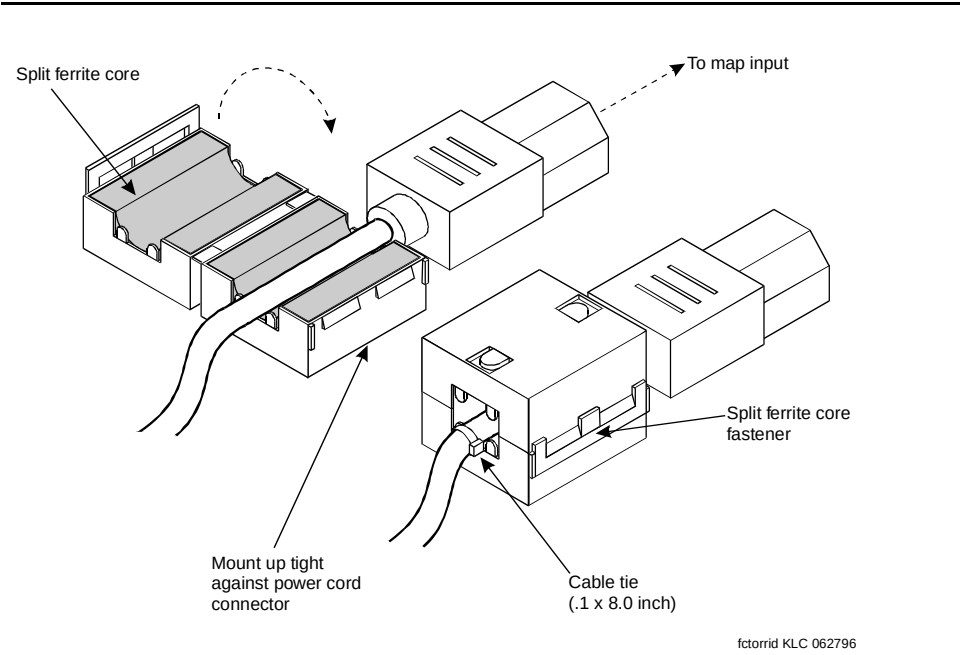
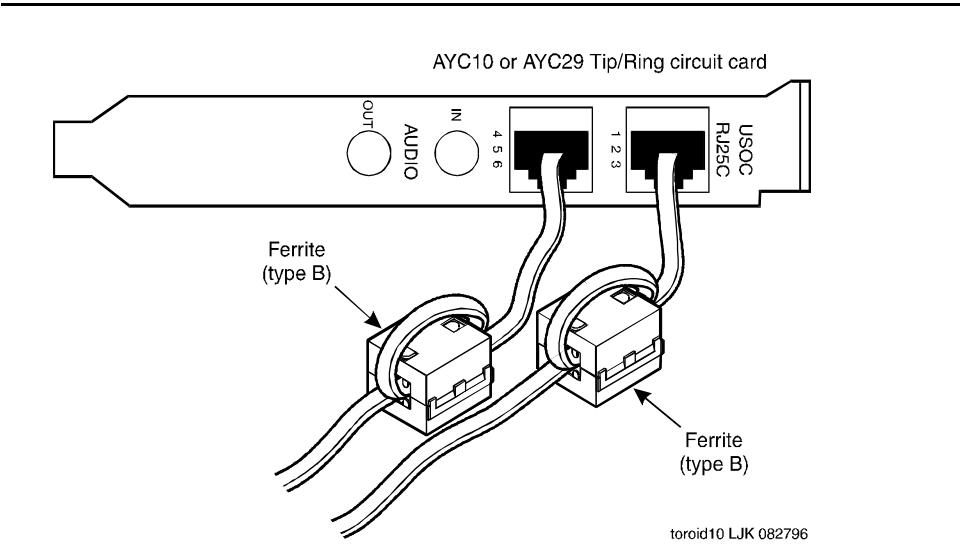

Figure 7-2. Example Ferrite (Type B) Installation
Figure 7-3. Example Ferrite (Type B) Installation
The following is the general ferrite installation procedure. Figure 7-2 and Figure 7-3 show different examples of ferrite installations.
5. Attach a large cable tie directly behind the ferrite to secure it. If the cable is installed looped through the ferrite, no cable tie is required (Figure 7-3).